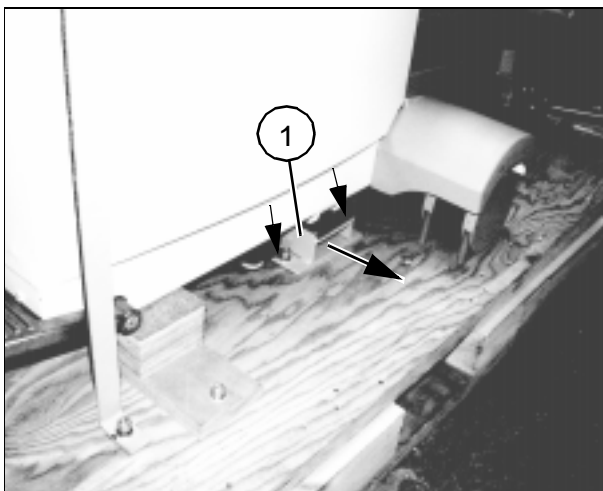

Fig. 6
- Unscrew supporting blocks (1/Fig. 6) on both sides and remove.